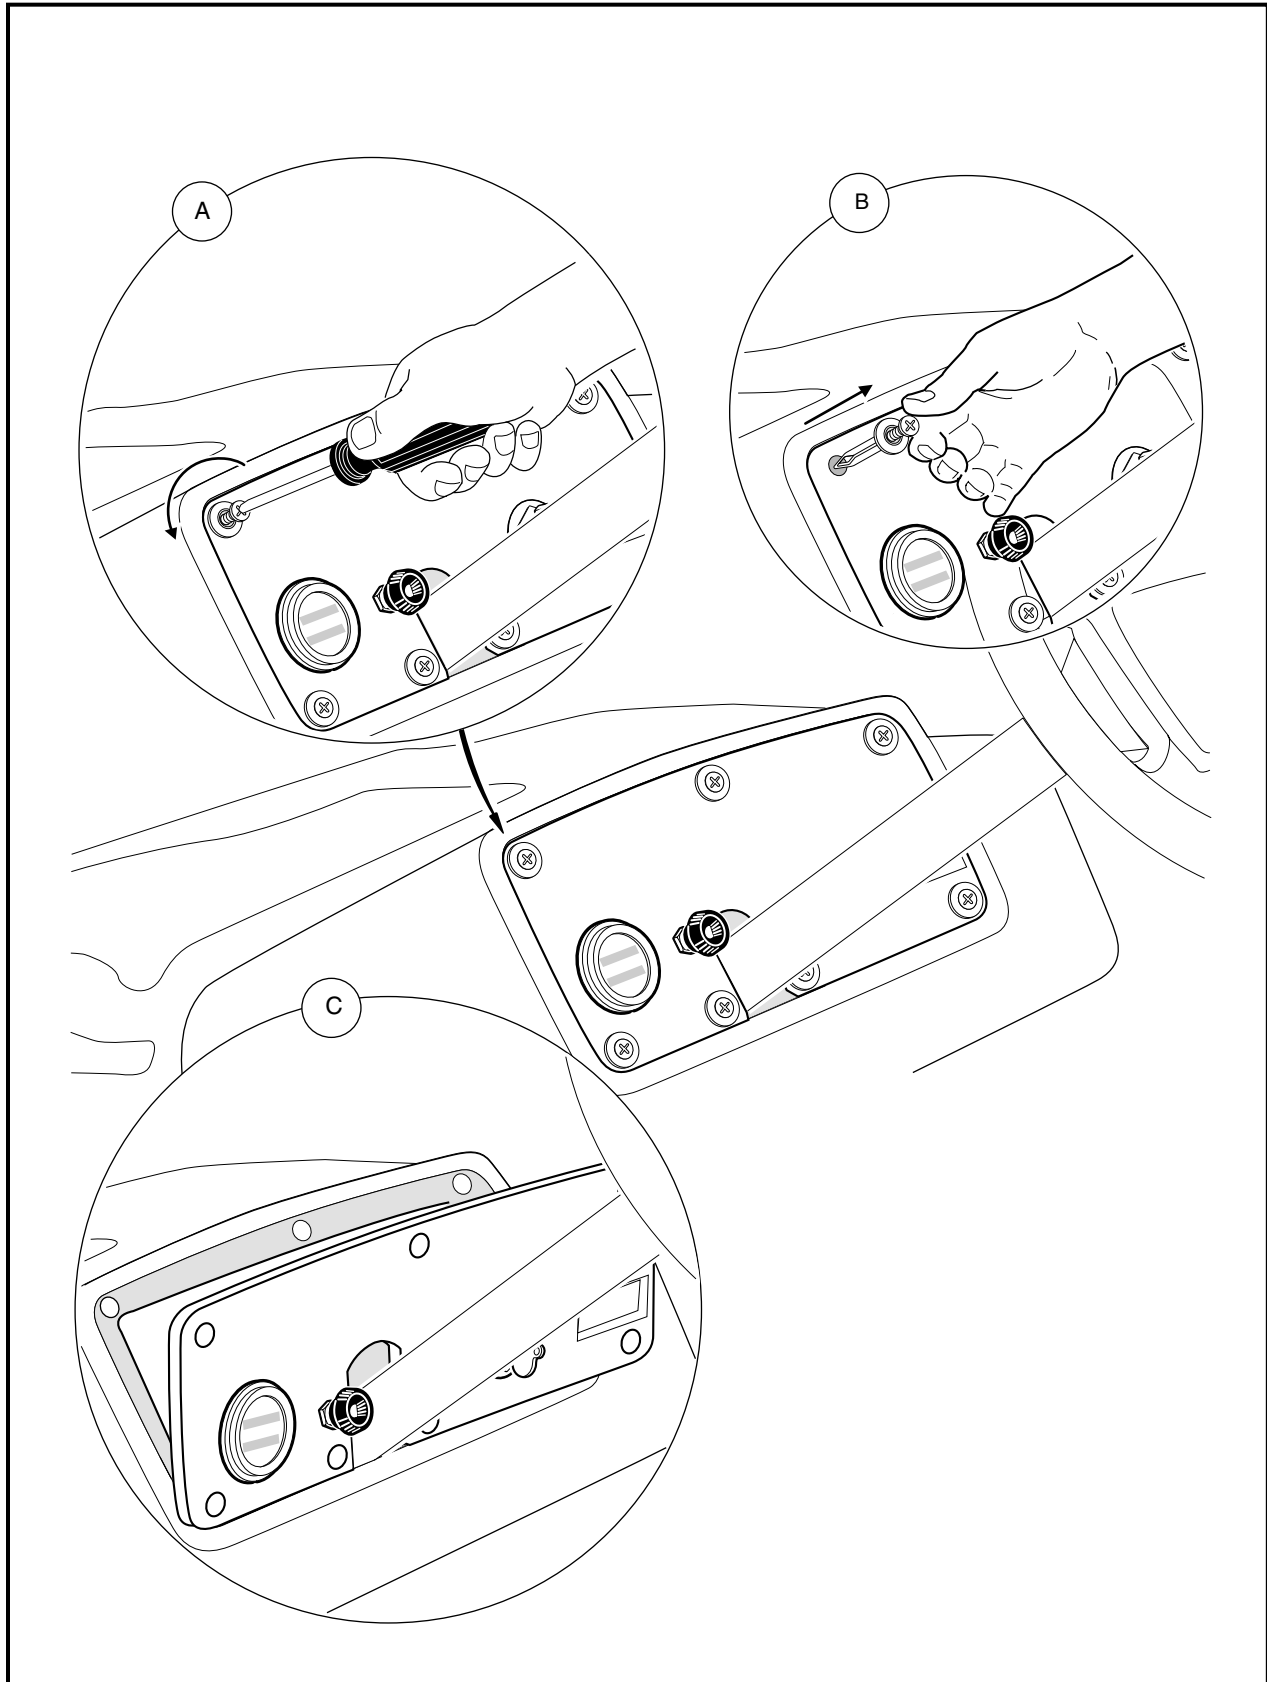

Figure 12-21 Center Dash Panel Removal
- 4.1. Loosen seven Tuflok screws, but do not remove screws completely, as shown in Detail A (**Figure 12-21, Page 12-19**).